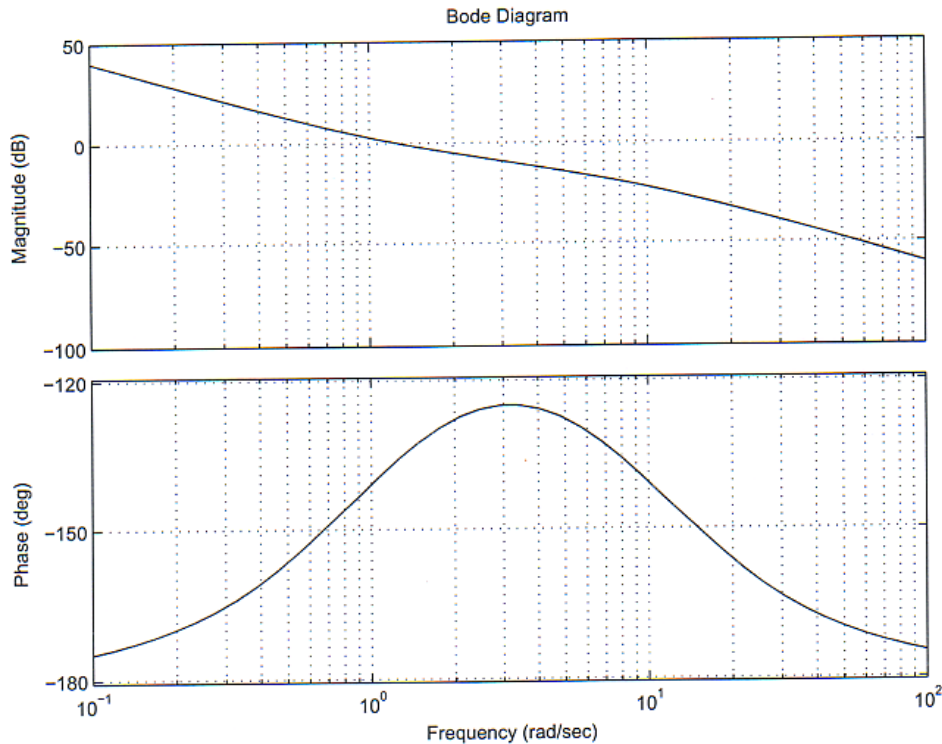

Figure 11.3
- Given the Bode plots of $G(s)$ in Figure 11.3, determine a proportional controller, i.e. $C(s) = K$ such that the gain crossover frequency of the system is 10 rad/s. Is the system stable?